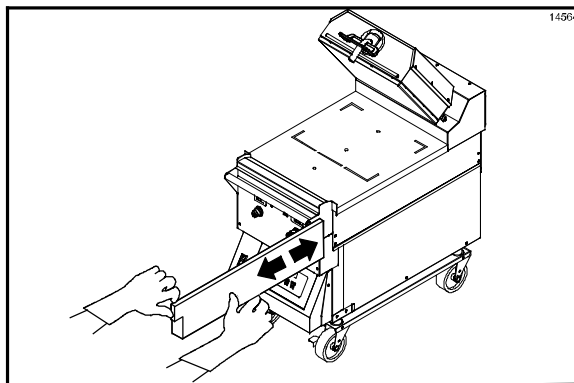

Figure 20
11. Remove, empty, and reinstall the grease pans. (See Figure 20.)